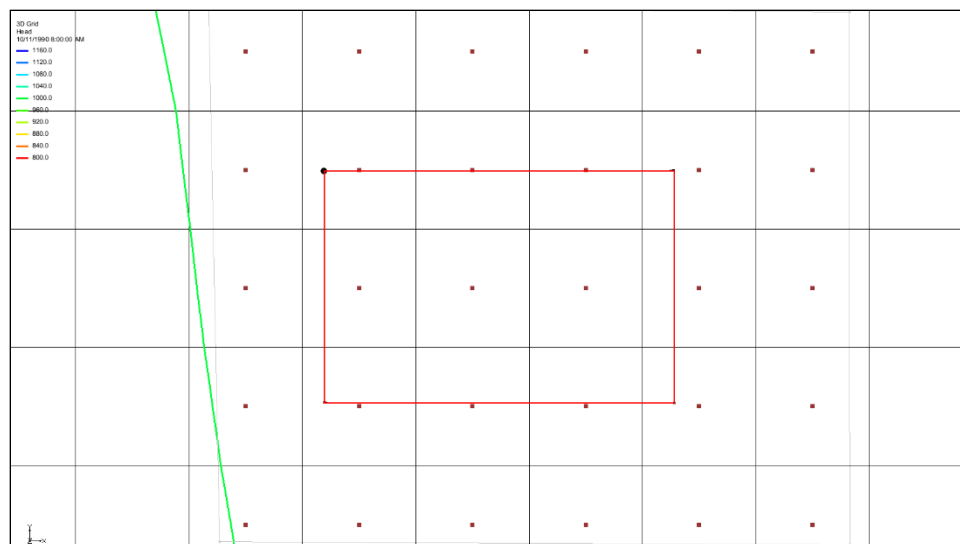

Figure 4 Arc created on boundary of local model, layer 2
3. Using the **Create Arc**  tool, create a single arc forming a rectangle directly on top of the red rectangle (Figure 4). If the red rectangle isn’t visible, turn on “ Annotation Data” in the Project Explorer.